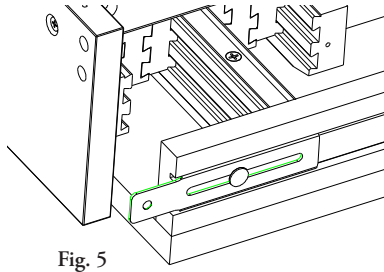

Fig. 5
1. Lay unit on side and fully extend table. Apply furniture wax to grooves of wood slides. (see fig. 5)